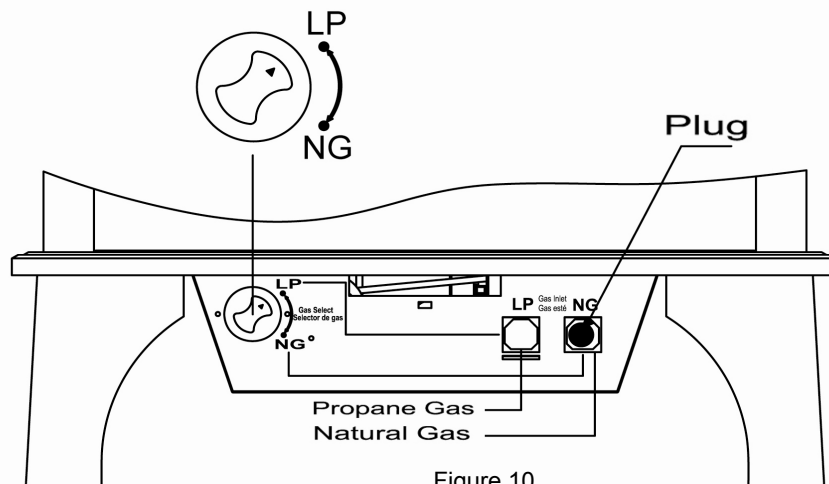

Figure 10
2. For PROPANE GAS, press in knob using a flat screwdriver with a blade the width of a quarter and turn knob counterclockwise  until the knob locks into the LP position (see Figure 10). Selection valve must be locked into either the LP position or the NG position.